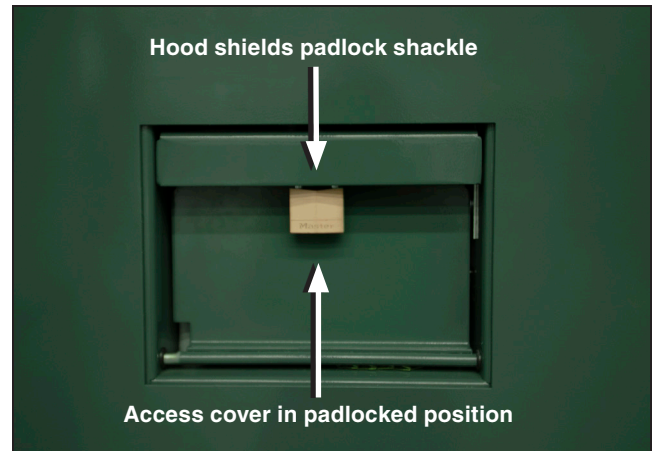

Figure 9. The access cover padlock.
- STEP 1.** Remove the padlock and open the switch-operating-shaft access cover. See Figure 9.